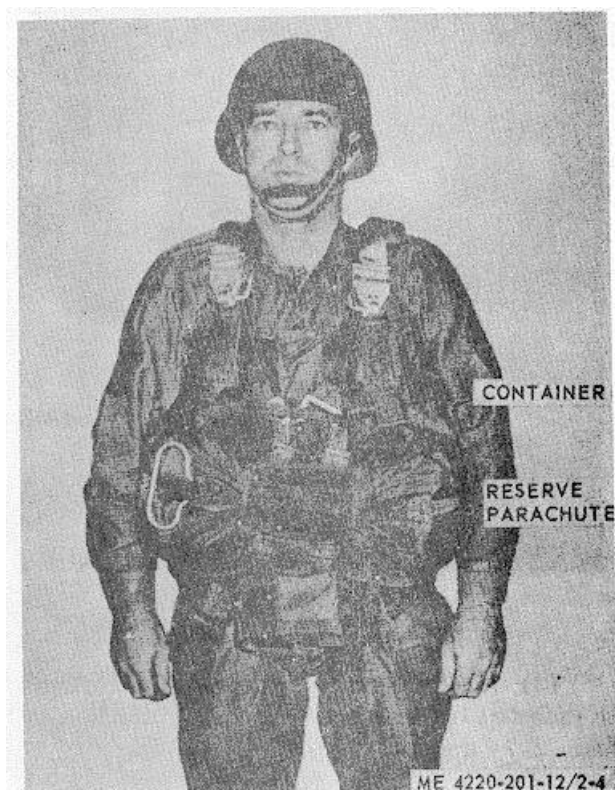

Figure 2-4. Type B-7 life preserver with parachute harness, front view.
- f. After the preserver is properly adjusted put on the parachute harness (fig. 2-4 and 2-5).